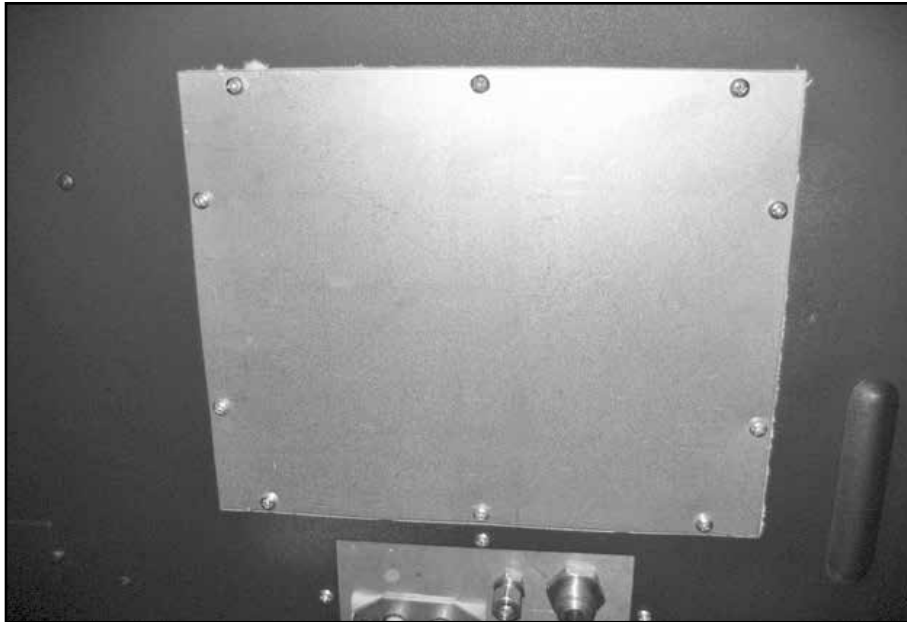

Figure 8: Access cover.
7. Re-install the access panel in the right side of the firebox (Figure 8).